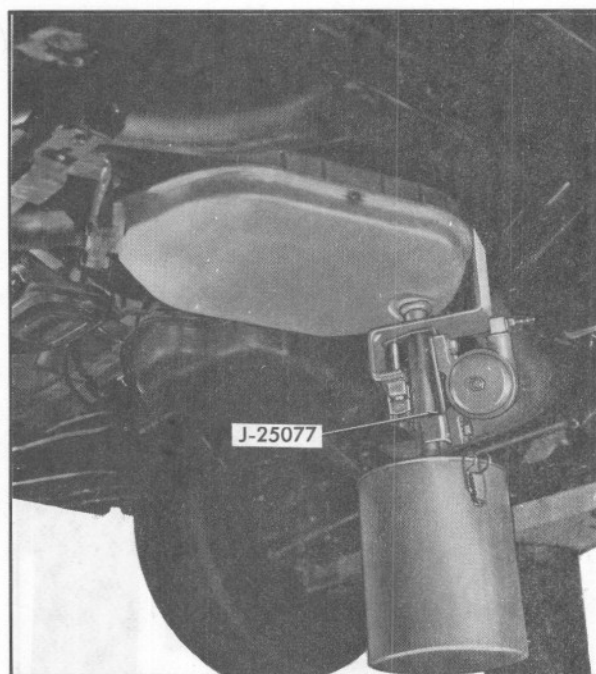

Fig. 8-7 Installing Vibrator
4. Clamp on vibrator, Fig. 8-7.